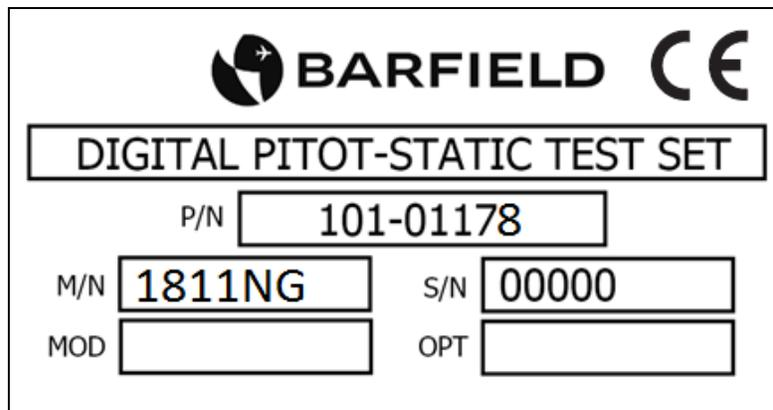

Figure 1 Identification Label
- A. The identification label, example (**Figure 1**), located on the front bulkhead of the Test Set, provides the following information: